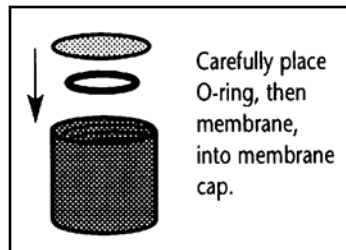

Figure 45 : Membrane cap housing with O-ring & membrane
9. Install a new membrane. Make sure the membrane covers the O-ring all around its circumference. See Figure 45.